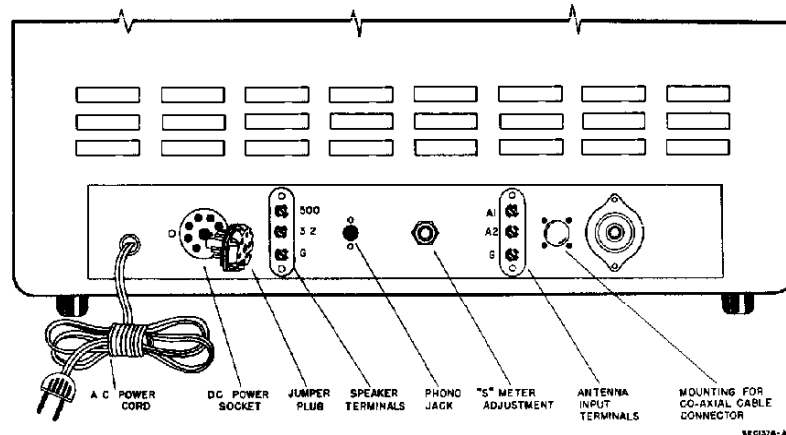

Fig. 4. Rear View of Receiver
The receiver is designed to operate directly on 105 to 125 volt, 50-60 cycle AC current. Provision has also been made in the receiver for operation from an external DC power source for portable or emergency service in areas where AC power is not available. Connections to the DC source are made through the DC POWER SOCKET at the rear of the receiver. (See Fig. 4.)
**IMPORTANT:** The receiver will not operate from an AC source unless the JUMPER PLUG is inserted in the DC POWER SOCKET. (See Fig. 4.)
A three-terminal strip, marked "G", "3.2" and "500", is provided at the rear of the receiver for connecting the external speaker that is required with the receiver. (See Fig. 4.) Any permanent magnet speaker with a 3.2-ohm voice coil can be used by simply connecting the two leads from the speaker voice coil to the terminals marked "3.2" and "G". If it is desired to use a speaker with a voice coil impedance other than 3.2 ohms, a matching transformer should be employed to insure optimum performance. The transformer should be mounted on or near the speaker, and should have a 5 watt power rating, a 500-ohm primary impedance, and a secondary impedance to match the impedance of the speaker voice coil. Connect the primary of the transformer to the terminals marked "500" and "G" and the secondary to the speaker voice coil terminals.
A phono jack is provided at the rear of your receiver for attaching a record player. (See Fig. 4.) Any record player using a crystal cartridge, or a magnetic cartridge with a suitable pre-amplifier, will provide satisfactory results. For phono operation, insert the pin-plug from the record player or pre-amplifier into the phono jack and set the SELECTIVITY control on the front panel at "PHONO". Adjust the VOLUME control for the desired volume level and set the RESPONSE control at either "NORMAL" or "TREBLE CUT" for the desired tone. The remaining controls are inoperative and will have no effect on phono operation.
The receiver may be disabled from a remote location by connecting a remote spst switch between pins 1 and 4 of the JUMPER PLUG located in the DC POWER SOCKET at the rear of the receiver. (See Figs. 4 and 6.). To operate the receiver with the remote switch, the RECEIVE-STANDBY switch on the front panel must be left at "STANDBY".